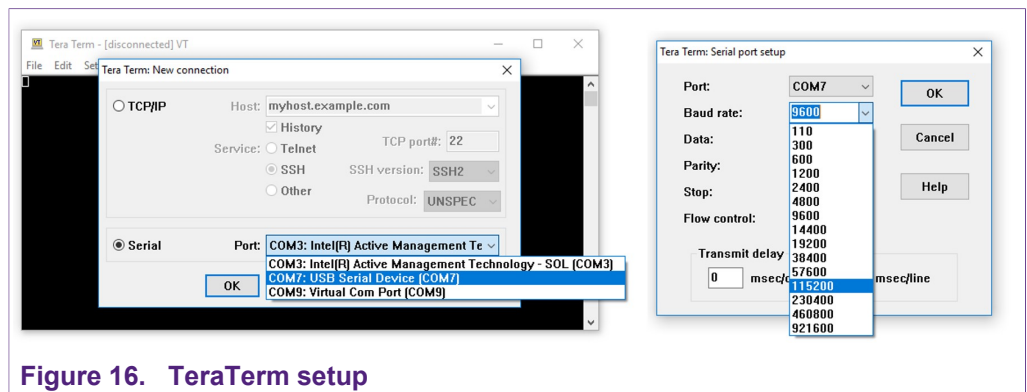

Figure 16. TeraTerm setup
2. Launch and setup TeraTerm application as shown in Figure 16: